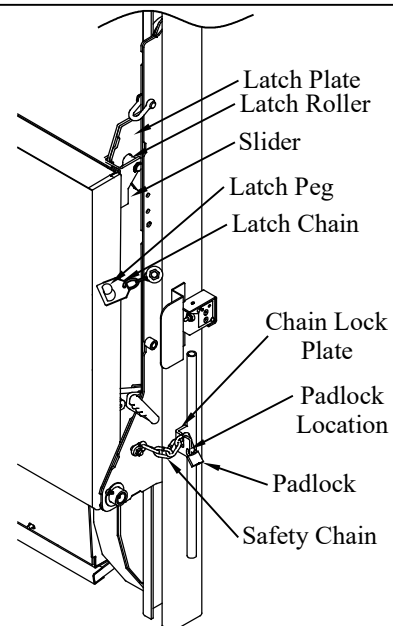

Figure 5: Platform Chains and Gas Bottle Rack fences removed for clarity.
1. **Remove** the latch padlock and **Unhook** the safety chain (Figure 5).
2. **Unlatch** the latch chain from the latch peg (Figure 5).
8. **Raise** the liftgate until the platform latch rollers are locked in the latch plates (Figure 5).
9. **Latch** the latch chain over the latch peg (Figure 5).
10. **Hook** the safety chain and **Attach** the padlock (Figure 5).